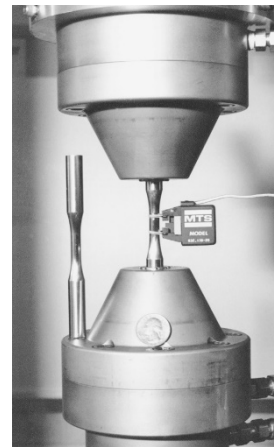

Figure 14.2
- Strain-life curves are derived from fatigue tests under completely reversed cyclic loading between constant strain limits (See Fig. 14.2)